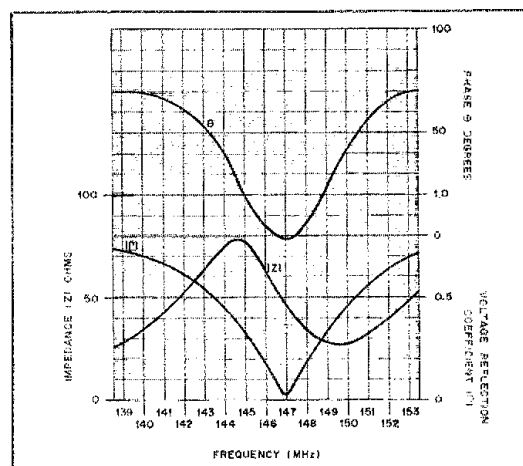

Fig. 4 — A graph of phase angle (θ), Impedance (Z) and voltage-reflection coefficient ($|\Gamma|$) vs. frequency from a J antenna designed for 147 MHz.
By employing an effective velocity factor of 0.83, the antenna could be resonated at the design frequency. The impedance was measured with a Hewlett-Packard rf impedance analyzer, Model 4191A, and the impedance (Z) and phase angle (θ) were machine plotted (Fig. 4). Note that at resonance ($f = 147$ MHz), the input impedance is approximately 50 ohms, and that the impedance is higher and lower than this value for frequencies below and above resonance. The reactance is inductive on both sides of resonance (positive phase angle), and near 0° at resonance.
The graph of Fig. 4 also shows the voltage-reflection coefficient $|\Gamma|$, which is near zero at resonance. Since